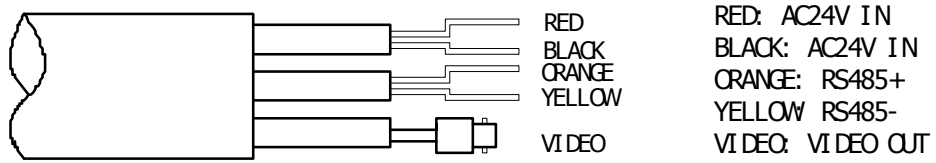

Figure 14
12. Connect the control wires of the system as per Figure 14.